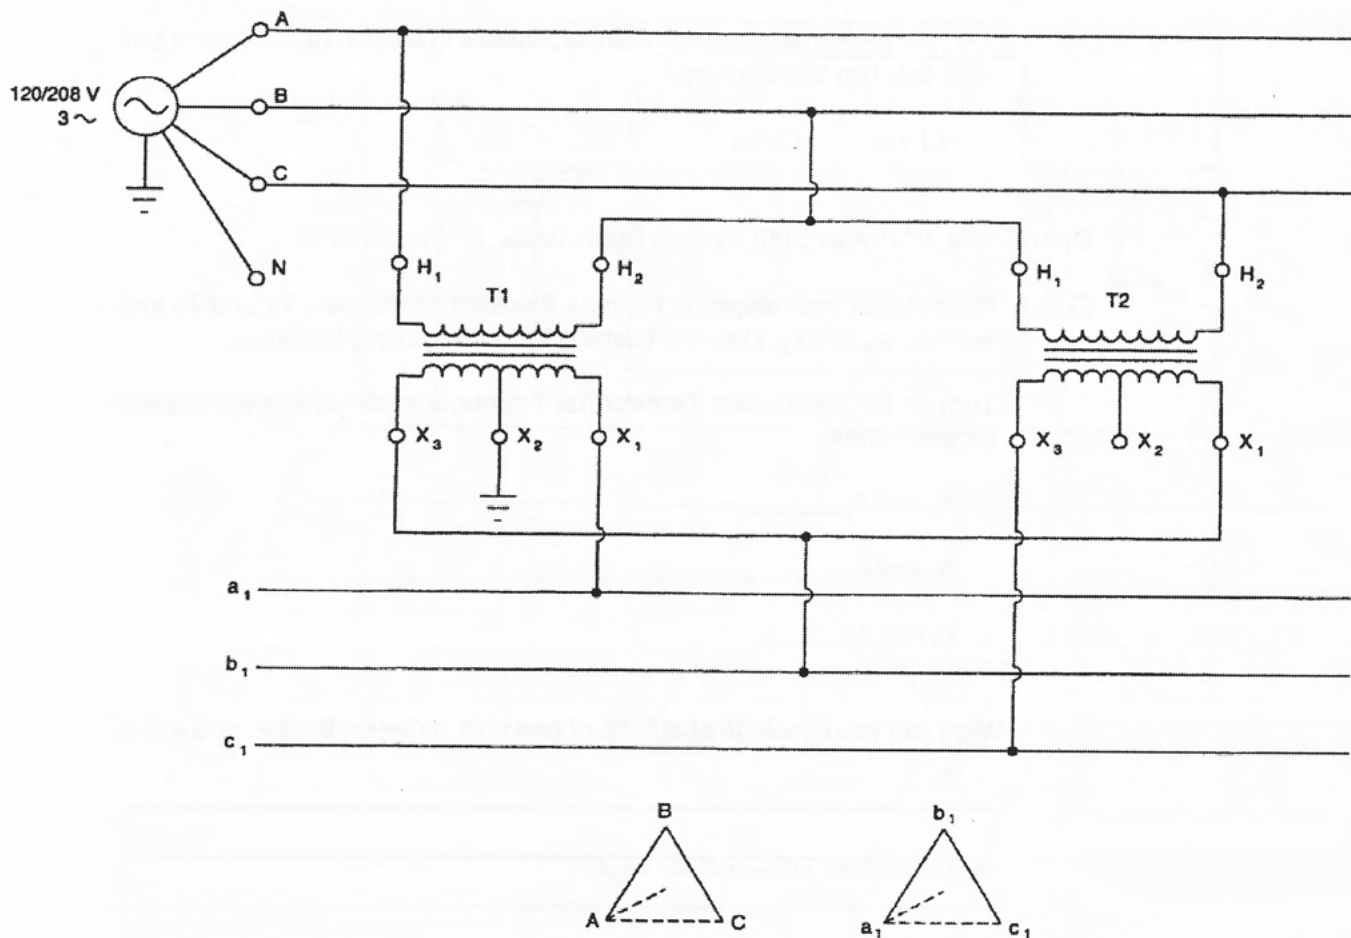

Figure 1-8. Open-delta, 0° phase shift.
- 9. Connect the circuit shown in Figure 1-8. Use transformers T1, and T2 and lines a₁, b₁, and c₁. Connect bushing X₂ of transformer T1 to the ground terminal.
- ☐ 11. Repeat the circuit shown in Figure 1-8 using transformers T4 and T5 and lines a₂, b₂, and c₂. Connect bushing X₂ to the ground terminal.